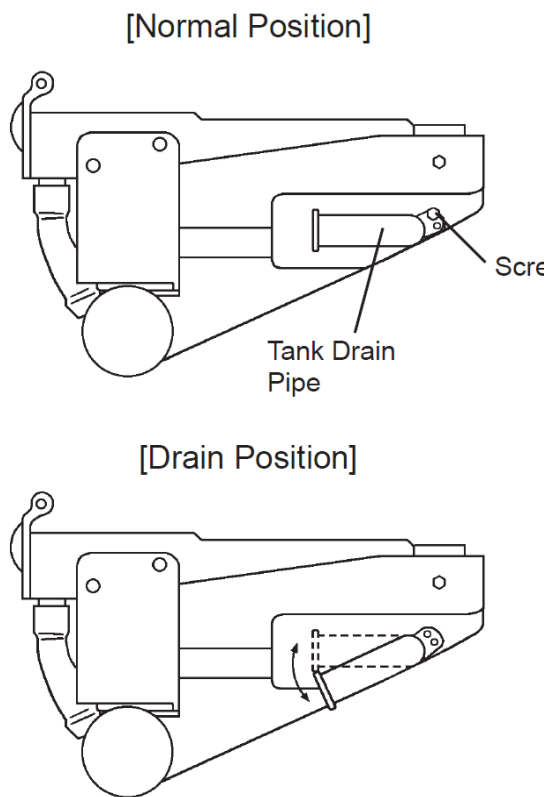

Fig. 5
5) Remove the screw, and then move the water tank drain pipe to the drain position. See Fig. 5. Use the screw to secure the water tank drain pipe in the drain position.
- 20) Remove the screw, then move the water tank drain pipe to the normal position. See Fig. 5. Use the screw to secure the water tank drain pipe in the normal position.